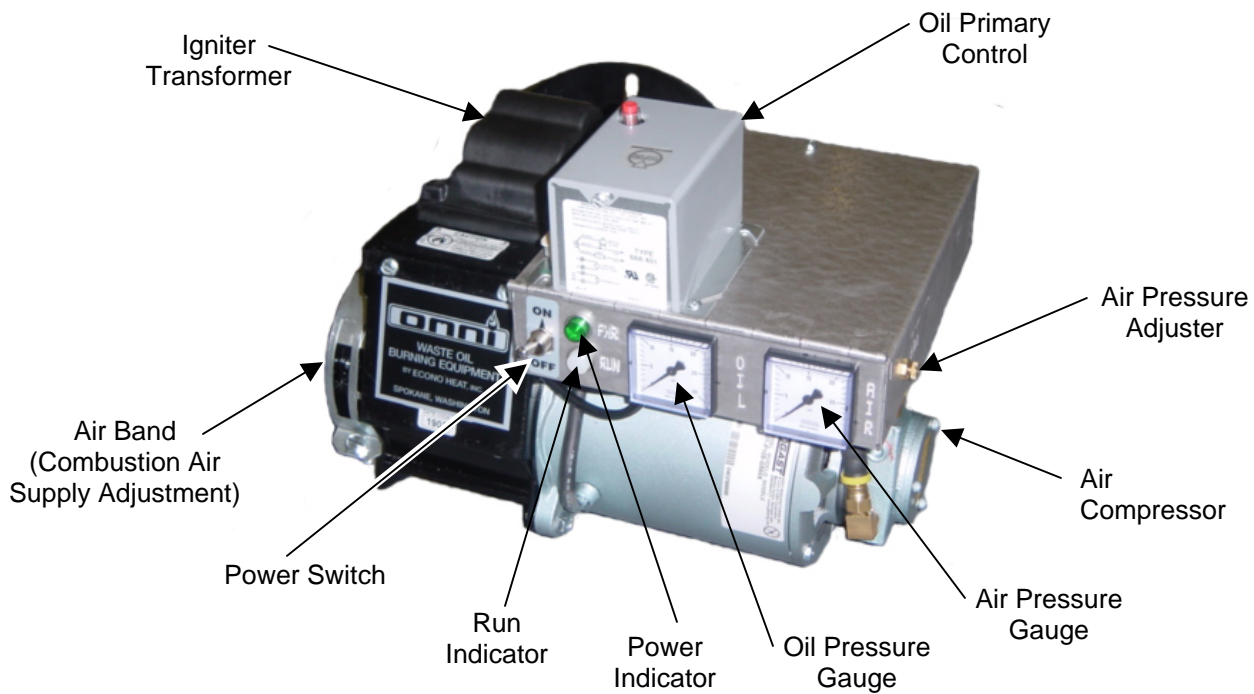
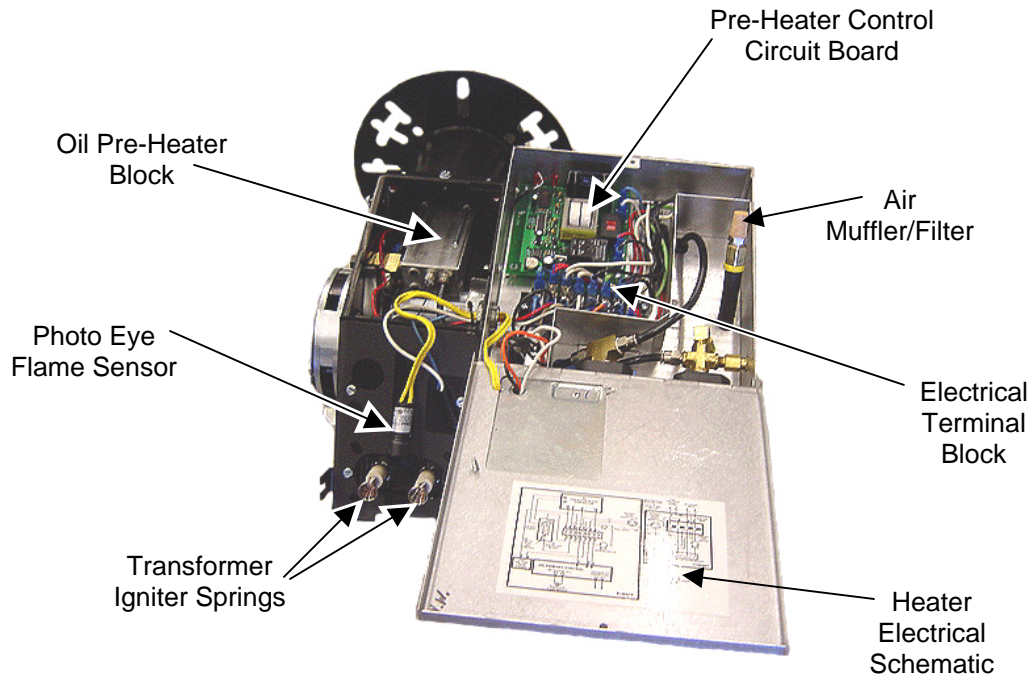
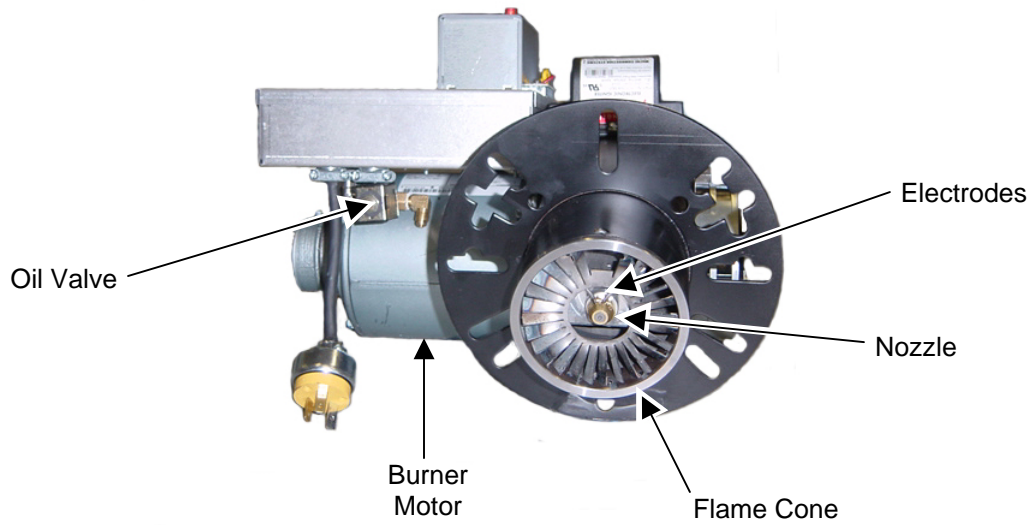

Figure 1 – Oil Burner (Back View Closed)
Figure 2 – Oil Burner (Back View Opened)
Figure 3 – Oil Burner (Front View)
Omni's patented burner technology improves the efficiency of the oil burn process by continuous stabilization of the oil viscosity. Optimum atomization (spray) is accomplished by precisely pre-heating the oil and air prior to introduction to the combustion chamber. The waste oil enters into the Oil Pre-Heater Block (figure2) and is pre-heated to operating thermo setpoint, then compressed air from the air compressor (figure1) is mixed with the oil prior to spraying out the nozzle similar to fuel injection, by breaking up the oil droplets into a finer mist or spray (atomization). Electrodes mounted just above the nozzle (figure3) provides continuous electrical arc across electrode to electrode igniting the fine oil mist as it sprays out of the nozzle. Once ignited the flame is forced into a swirl caused by the burners blower and specially designed flame cone (figure3) providing a very efficient and thorough burn of the waste oil.
- **Igniter Transformer:** (figure1) Supplies high voltage to the electrodes generating electrical arc igniting the oil.
- **Oil Valve:** (figure3) energizes when burner is running and de-energizes when burner is not running eliminating bleed back of oil out of the Pre-heater block.
- **Air Band:** (figure1) Adjusts amount of air introduced into the combustion chamber.
- **Oil Primary Control:** (figure1) Controls the oil burner ignition. Checks for flame in the combustion chamber, if no flame is detected within 45 seconds, the oil primary will shutdown the oil burner. To restart the unit, reset the red button on the oil primary.
- **Oil Pre-Heater Block:** (figure2) Pre-heats the oil and air before entering combustion chamber.
- **Photo Eye:** (figure2) Senses flame in combustion chamber and signals oil primary when no flame is present.
- **Igniter Springs:** (figure2) Transfers the high voltage from the igniter transformer to the electrodes (when door is closed)
- **Air Pressure Gauge:** (figure1) Displays air pressure supplied by onboard air compressor.
- **Air Compressor:** (figure1) Supplies air used within pre-heater block to aid in atomization of the oil.
- **Air Muffler/Filter:** (figure2) Filters air and muffles the sound generated by the compressor.
- **Pre-Heater Control Circuit Board:** (figure2) Precisely controls temperature of the Oil Pre-Heater Block and controls safety feature of not allowing burner to energize until oil has established operating thermo setpoint or shutdown burner if Pre-Heater Block temperature falls below shutdown thermo setpoint.
- **Electrodes:** (figure3) Provides continuous high voltage electrical arc from electrode to electrode igniting the waste oil as it is being sprayed out of the nozzle.
- **Nozzle:** (figure3) Low pressure nozzle for oil spray pattern.
- **Flame Cone:** (figure3) Specially engineered flame cone forces the flame into a swirl pattern improving the burn thoroughness.
- **Burner Motor:** (figure3) Multitask motor turns the burner blower and integrated air compressor.
- **Air Pressure Adjuster:** (figure1) Adjusts the air pressure going to the pre-heater block. Should be adjusted between 12 PSI and 13PSI as indicated on the Air Pressure Gauge on the burner for thorough burn of the waste oil.
- **Oil Pressure Gauge:** (figure1) Displays oil pressure at the burner. Adjustment at the Oil Pump must be made to achieve oil pressure readings at the burner as indicated below.
- **Power Indicator:** (figure1) Indicates when power is present at the burner.
- **Run Indicator:** (figure1) Indicates that the burner is ready for operation after the initial pre-heat time of approx. 5 minutes from initial power up.
- **Power Switch:** (figure1) Switches power off and on to the burner.